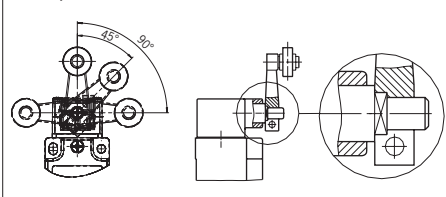

Fig. 2: Vertical actuator adjustment
- ▶ The actuator (lever arm) must be positively mounted to the actuating shaft. The polygon drives on the actuator and actuating shaft must engage with each other (see Fig. 2).